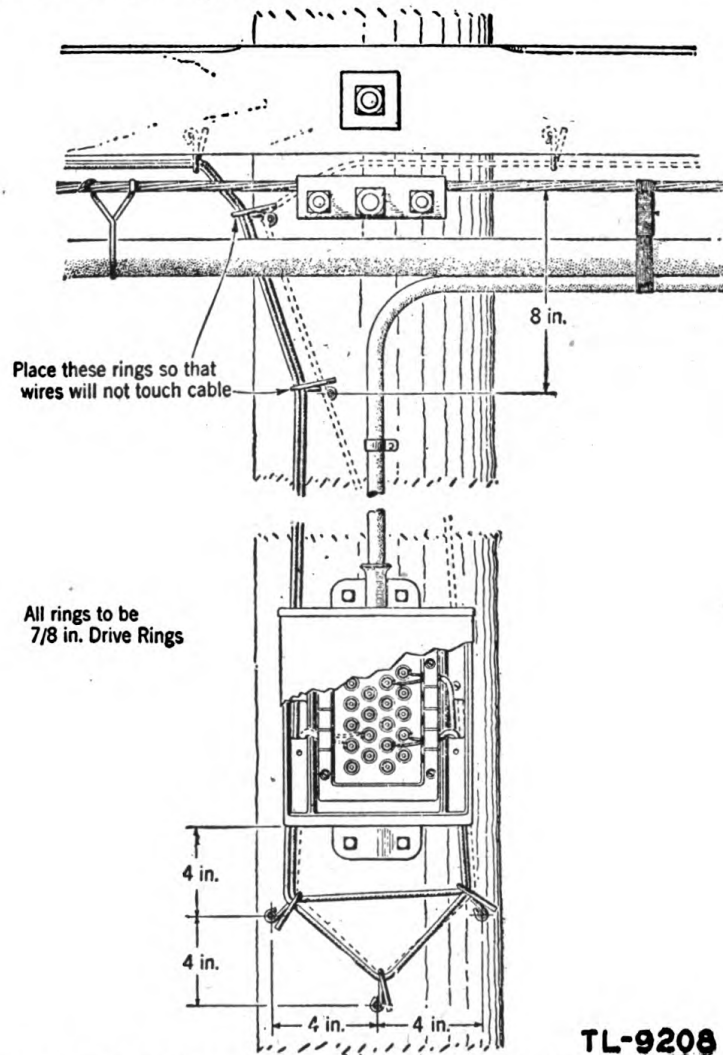

Figure 13. Drive rings installed at cable terminal mounted on pole.
- (7) Where wire run is horizontal, place drive rings so that the opening of the drive ring is at the top.
- (8) In a wire run that changes direction from horizontal to vertical, place two drive rings at the bend of the run and arrange the drive rings so that the wires will rest against the loops and not against the pins of the rings.
- (9) Where a wire run turns an outside corner, place a drive ring not farther than 6 inches away from the corner, in each direction, and cover all the wires that come in contact with the corner, with at least two layers of 3/4-inch black friction tape at the point of contact.
- (10) Where a wire run turns an inside corner, place a drive ring not farther than 6 inches away from the corner in each direction.
- (11) Where drive rings are installed at distribution terminals (figs. 13 and 14), use the 7/8-inch ring, which will provide facilities for wiring at 16-pair (and smaller) distributing terminals.